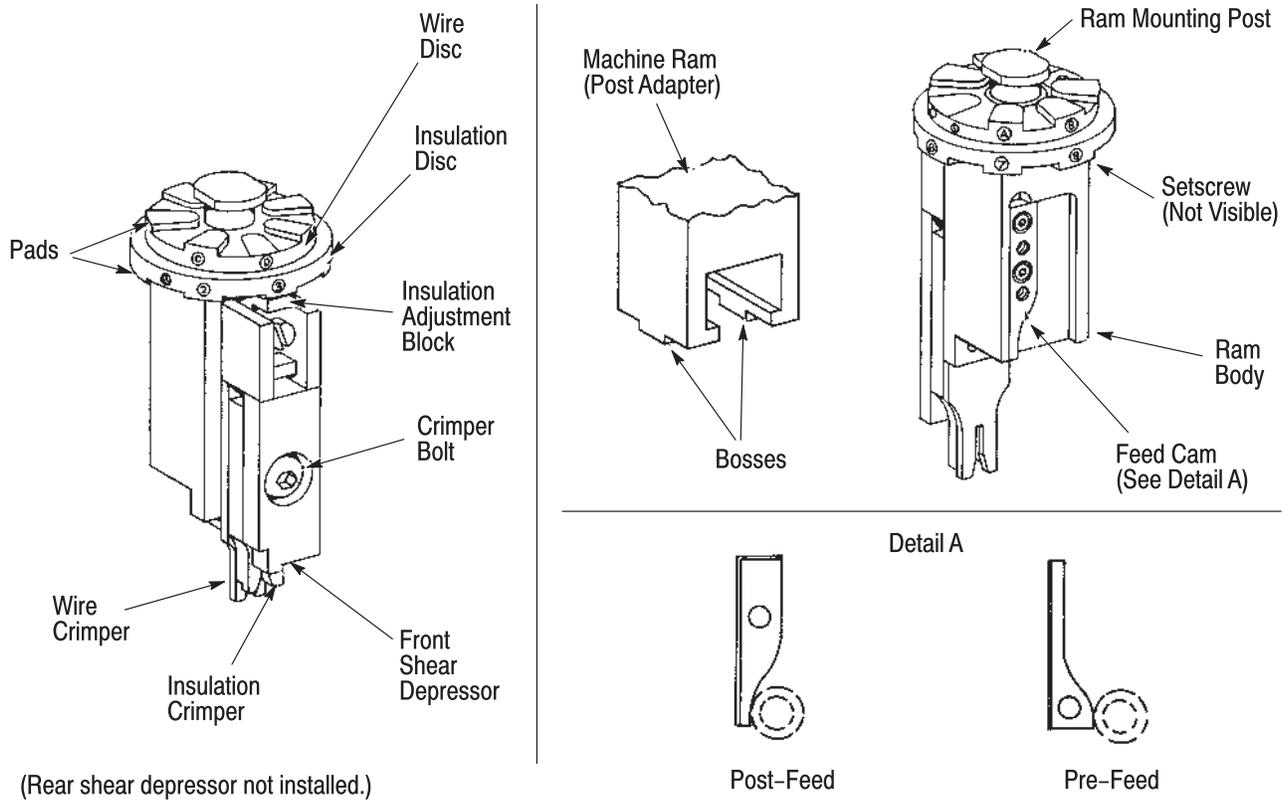

Figure 3
The ram mounting post of the ram assembly (shown in Figure 3) engages with the post adapter of the machine ram, and it is the machine ram that actuates the applicator. Just below the ram mounting post is a wire disc and an insulation disc. The wire disc has as many as four pairs of pads, with each pair being of a different height. By rotating the disc, each of the several pairs can be aligned with the two bosses on the machine ram (post adapter) to vary the depth of stroke of the wire crimper over the anvil (refer to Figure 3).
2. Rotate applicator’s wire disc (upper disc) to align selected pad letter with bosses on machine ram (post adapter). See Figure 3. This will provide proper crimp height for that wire size.